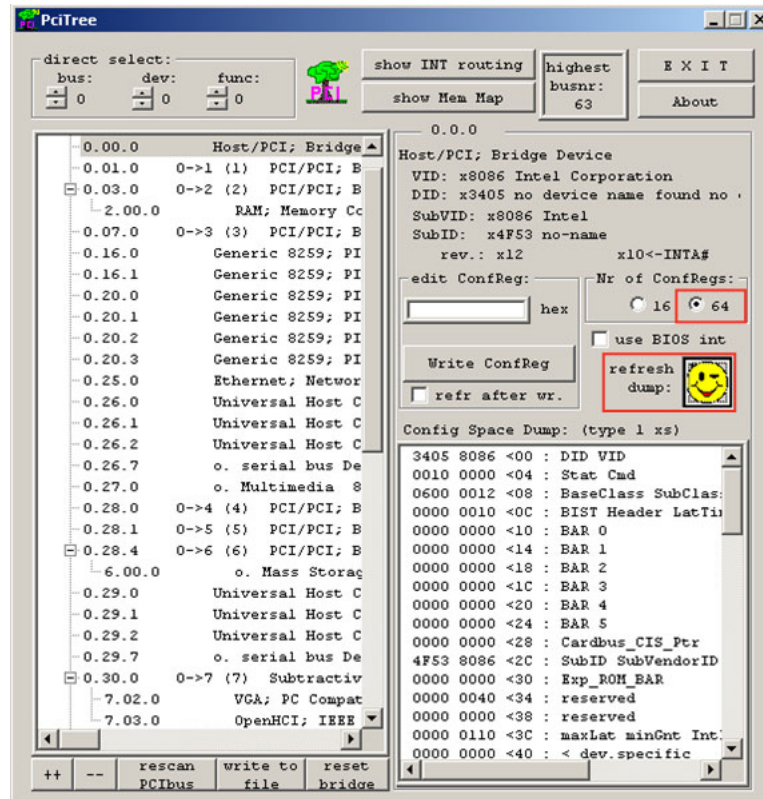

Figure 1-31: Set Configuration Registers
- Set the number of configuration registers to 64 (as shown in Figure 1-31) and click on the **refresh dump** button.